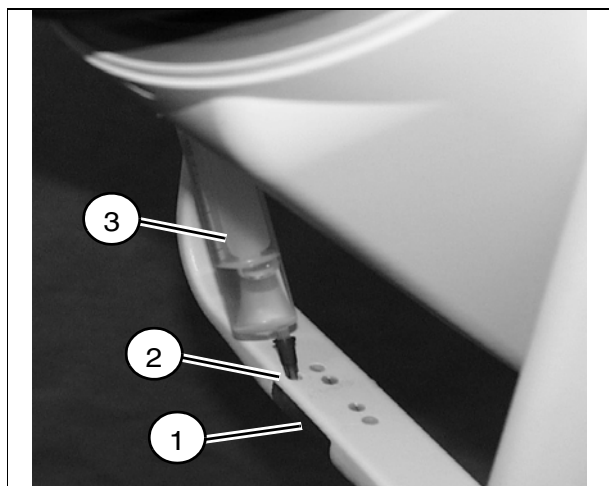

Fig. 19
- Check whether the isocenter phantom (1/Fig. 19) is filled with water; if not, remove screw (2/Fig. 19) and fill in water with a syringe (3/Fig. 19). There may not be any air bubbles. Turn in the screw again.